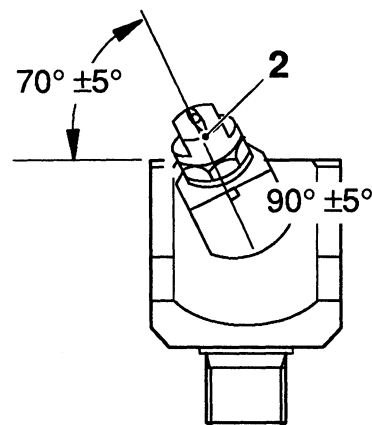

Fig. 1
Make sure the pivot pin flange is in level with the bottom of the bearing housing (9), see fig. 1.
- Set the opening of the nozzle (2) at right angles to the key handle (1), with the jet direction at $70^\circ \pm 5^\circ$ angle, see fig. 1.